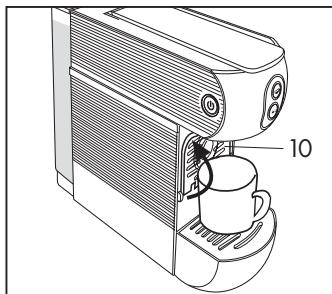

Fig. 5
- Check that there are no capsules in the machine and turn it on with the main switch (11).
- Close the small cup support (10) and place a large empty cup under the dispensing spout (4). (**Fig. 5**)
Open the support (10) to prepare espresso coffee correctly and to use small cups (**Fig. 7**). To use large cups, close the support (10) and place the cup directly on the grid of the drip tray (5). (**Fig. 5**)